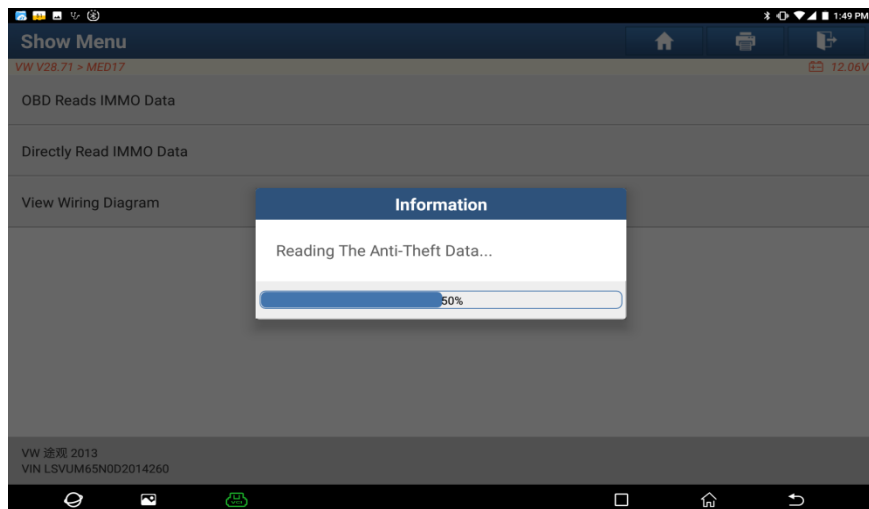

Figure 12
3.2.6 After connecting according to above prompts, click [Directly Read IMMO Data] as shown in Figure 12 and 13. (Note: The IMMO data can be saved for it can be loaded directly without manual input later.)